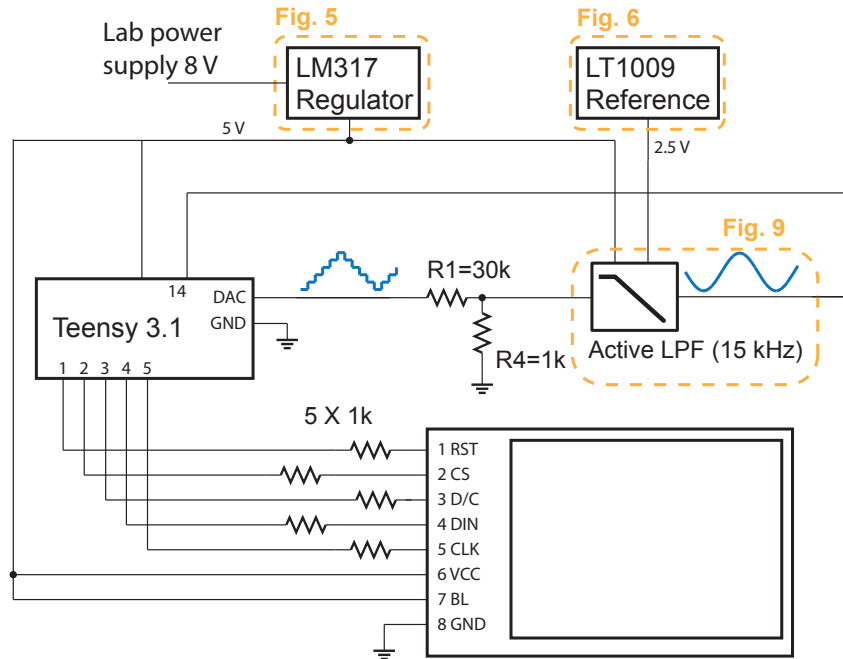

Figure 12: Acquiring, processing, and displaying the signal all within Teensy.
1. Set up the system according to Fig. 12